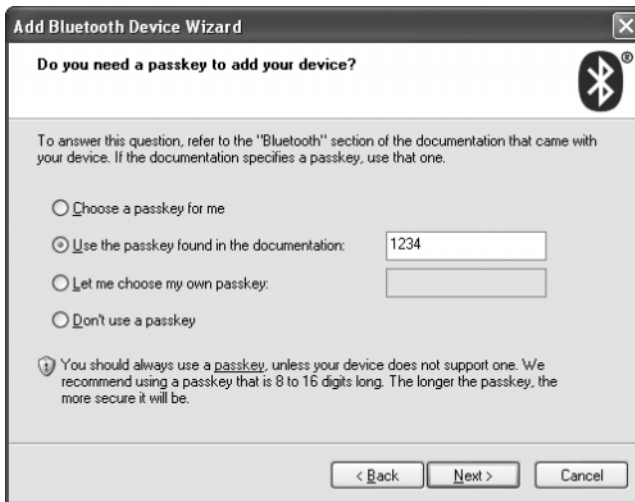

Figure A-7. *In this step of the Add Bluetooth Device Wizard, you must type in the passkey.*
4. You're then asked for a passkey. Just type in **1234**—the default for any NXT brick (see Figure A-7)—and click Next. Finally, click Finish in the last screen. At this point, your NXT (with the name you gave it) should be listed in the Bluetooth Devices (Devices tab).